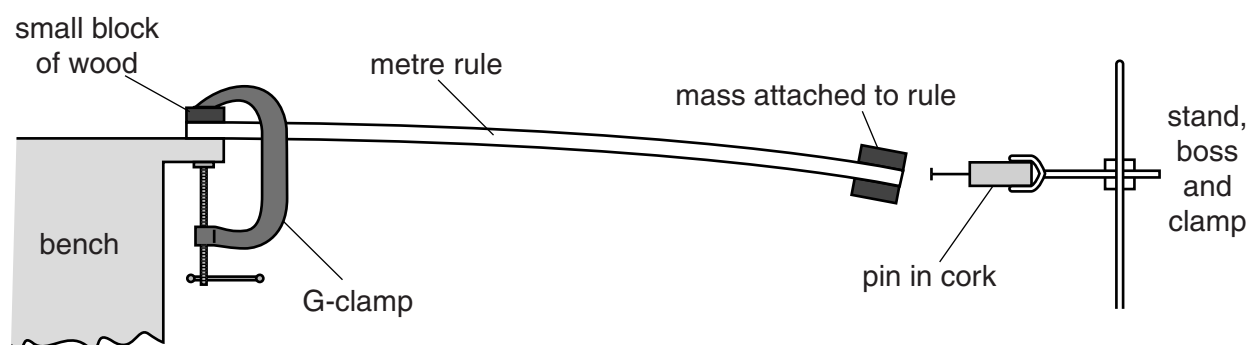
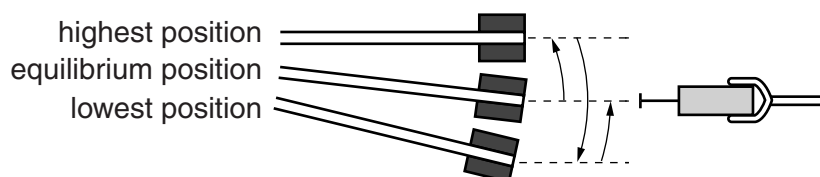

Fig. 2.1
Fig. 2.2
- (a) Fig. 2.1 shows the metre rule clamped horizontally at the edge of the bench. The Supervisor has attached a mass close to the free end of the rule.
The pin is clamped at the height of the equilibrium position of the end of the metre rule, as shown in Fig. 2.1. When the rule is pulled downwards a small distance and released, it vibrates up and down. One complete vibration is from the position of the pin, up to the highest position, down to the lowest position and back up to the position of the pin, as shown in Fig. 2.2.